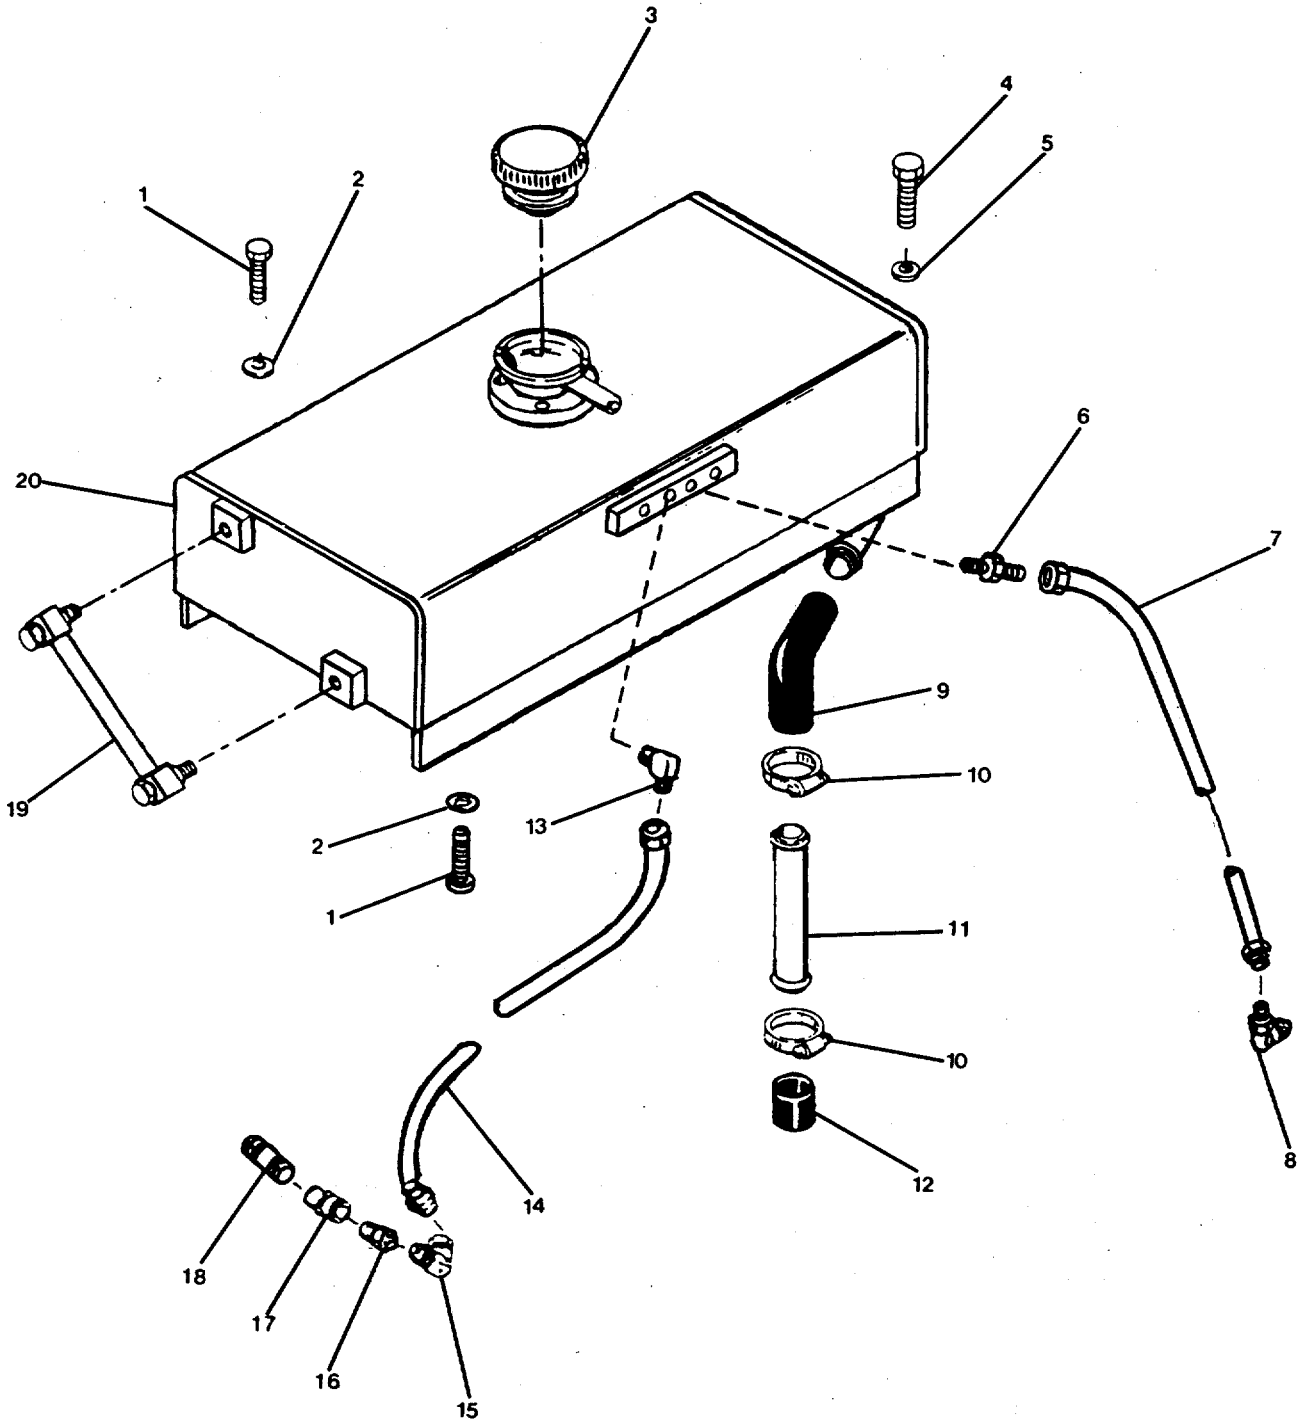

FIGURE 2-47. Expansion Tank Group.
**2-36. Replace/Repair Expansion Tank Group. (FIGURE 2-47)**